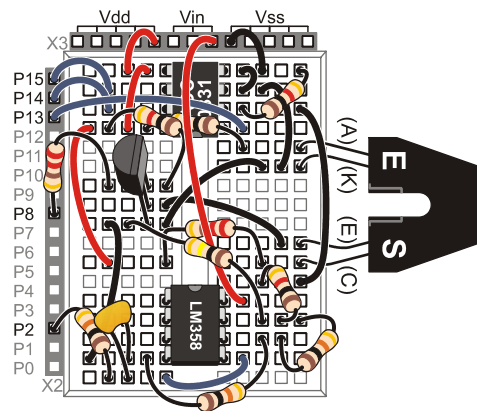

Figure 5-19
- (1) 4.7 k Ω Resistor
- (2) 1 k Ω Resistors
- ✓ Reconfigure the op-amp as shown in Figure 5-19. Set the 4.7 k Ω resistor aside for the moment.